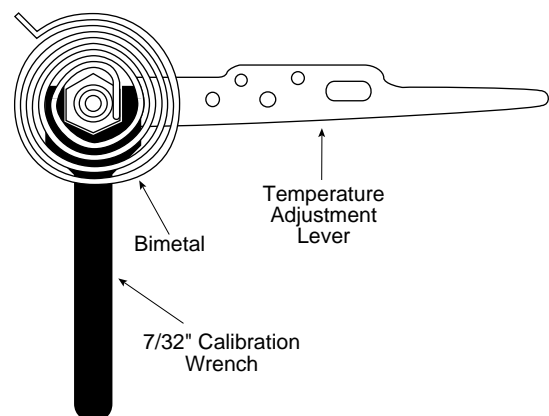

Figure 7. Calibrating thermostat
2. Remove thermostat cover. Slip  $\frac{7}{32}$ " wrench onto hex nut beneath bimetal and hold temperature adjustment lever stationary. Turn hex nut clockwise until mercury shifts to right end of tube (see fig. 7).